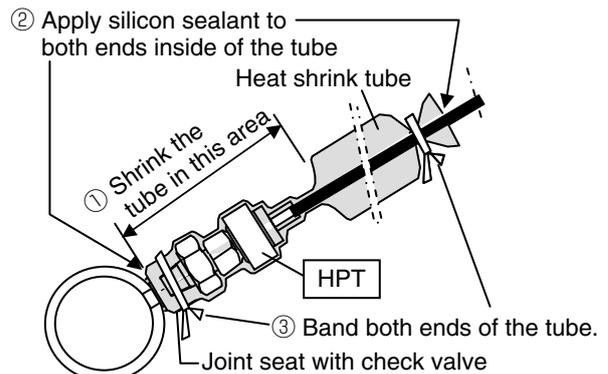

Fig. 3
4. Set one end of heat shrink tube to joint seat with check valve (Fig. 3) and then
- ① Shrink the tube by heating up using hair dryer. (Fig. 3)
- ② Apply silicon sealant to both ends inside of the tube. (Fig. 3)
- ③ Band both ends of the tube. (Fig. 3)